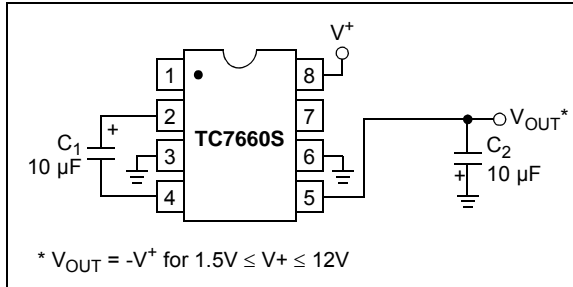

FIGURE 5-1: Simple Negative Converter.
Figure 5-1 shows typical connections to provide a negative supply where a positive supply is available. A similar scheme may be employed for supply voltages anywhere in the operating range of +1.5V to +12V, keeping in mind that pin 6 (LV) is tied to the supply negative (GND) only for supply voltages below 3.5V.
The output characteristics of the circuit in Figure 5-1 are those of a nearly ideal voltage source in series with a 70Ω resistor. Thus, for a load current of -10 mA and a supply voltage of +5V, the output voltage would be -4.3V.